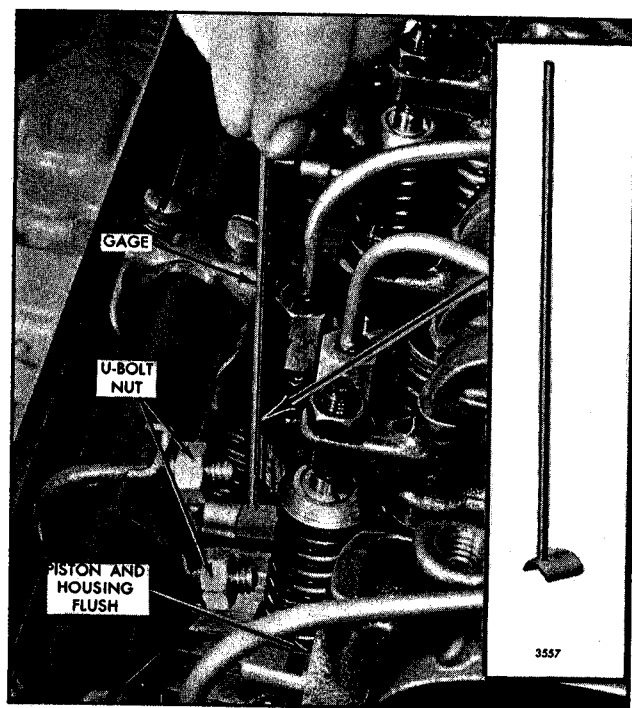

Fig. 2 - Adjusting Throttle Delay Cylinder
2. Insert gage J 23190 between the injector body and the shoulder on the injector rack (Fig. 2). The gage is .454" wide. Then exert a light pressure on the injector control tube in the direction of full-fuel.